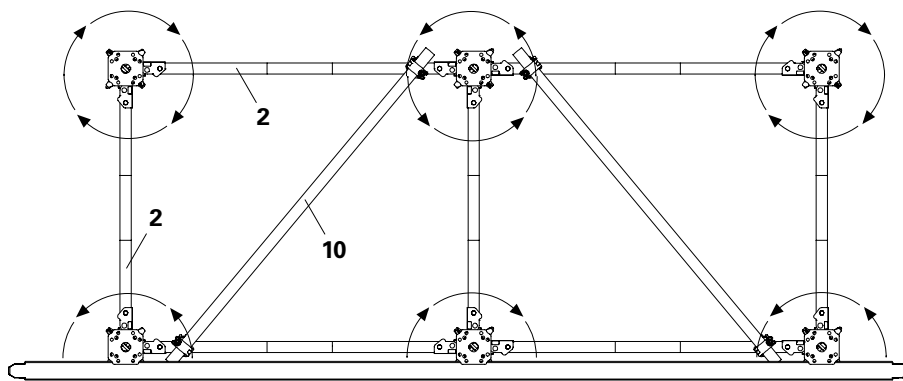

Fig. A3.06
- The Frames MRK (2) must be consistently installed in a "windmill" design.
- The assemblies are to be braced diagonally using scaffold tubes with a diameter of 48.3 (10) at about half the tower height. (Fig. A3.06)